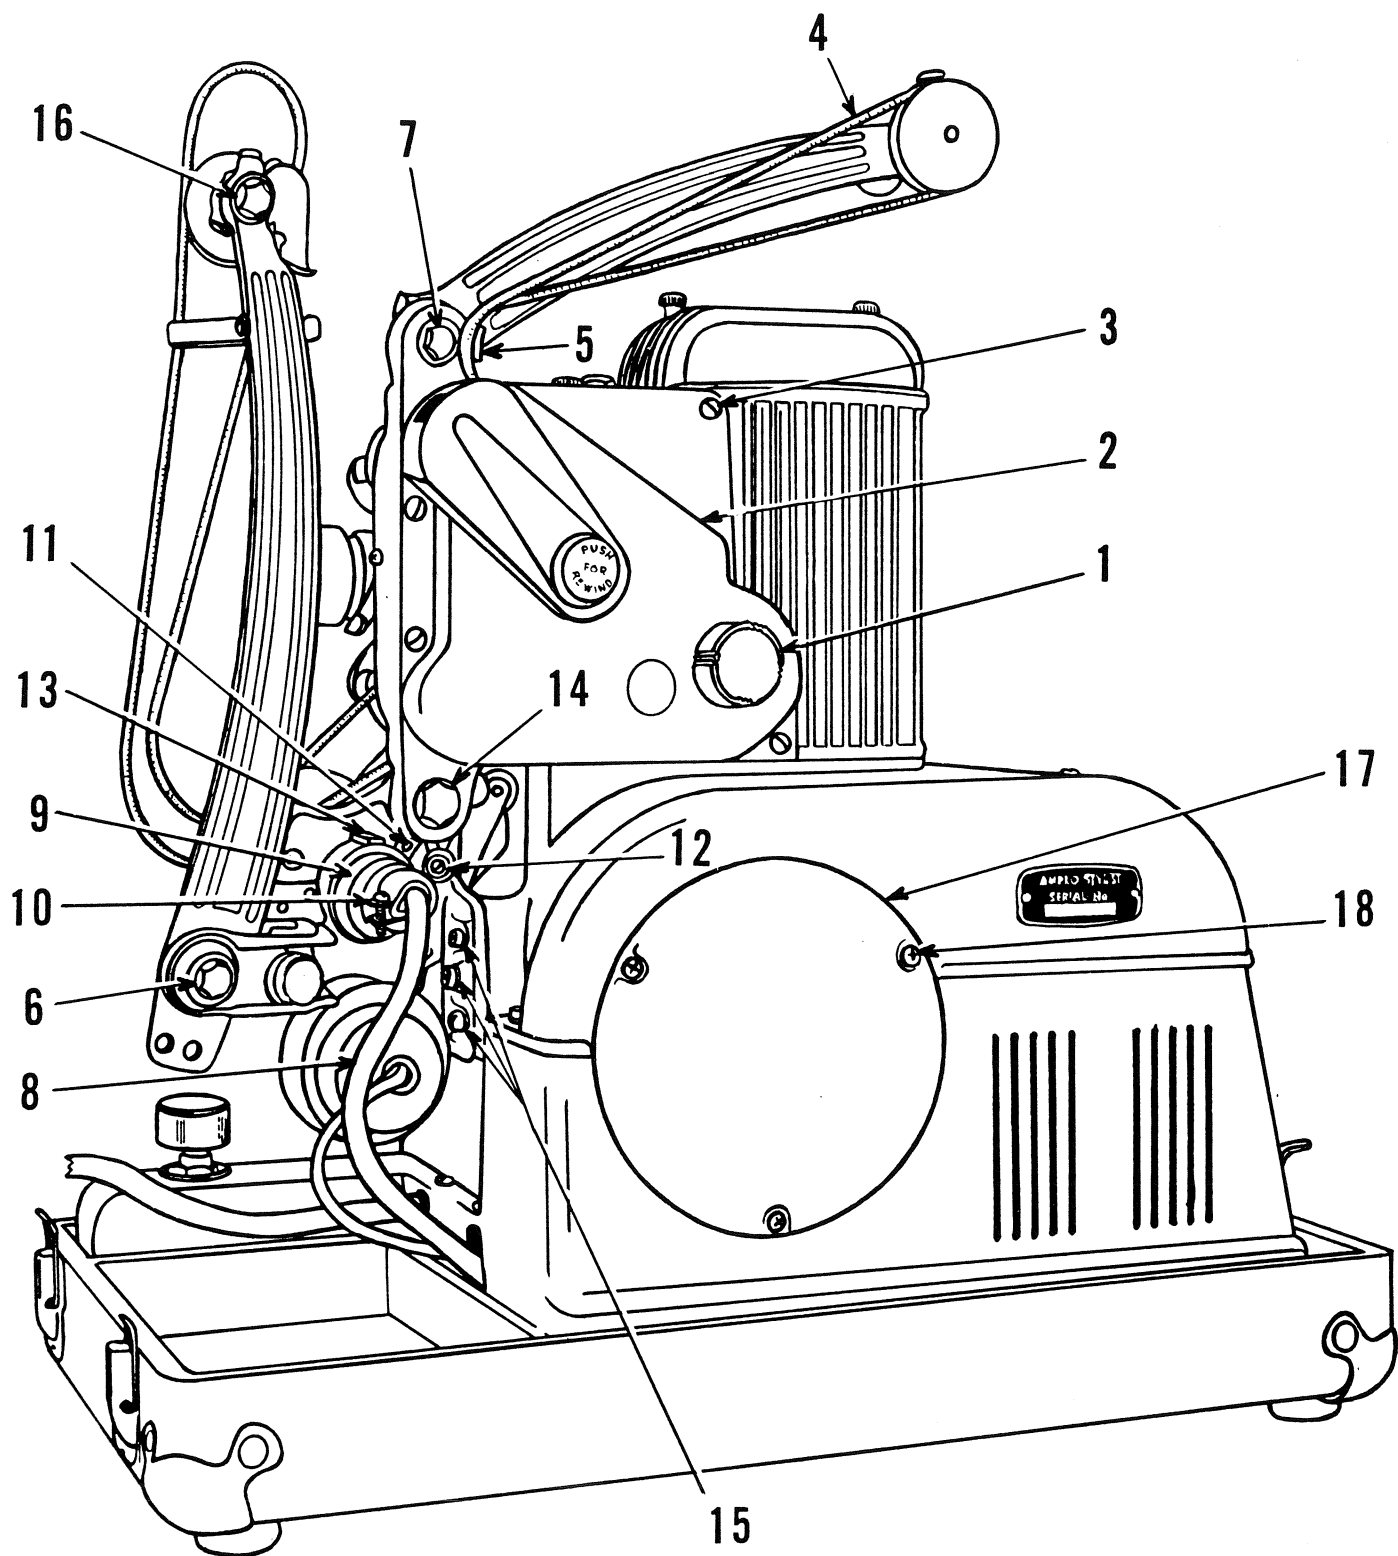

Figure 3 - LEFT HAND SIDE
- b. Gear Compartment (See Fig. 3) - Loosen the setscrew in the shutter control knob (1) and remove the knob. Take out the four screws (3) which hold the rear cover (2) in place and remove the cover. If the mechanism is very dirty it should be disassembled for cleaning (See Sec. III-A-6). Remove any surplus oil that may have accumulated in the bottom of the mechanism. Wipe the gears with a cloth saturated with Amproil, this can be accomplished easily with the mechanism operating at slow speed, but guard against getting fingers or loose ends of the cloth caught in the gear train.
- c. Fan and Fan Housing (See Fig. 3) - Remove the three screws (18) which hold the fan cover (17) in place and remove the cover. If compressed air is available start the projector motor and direct a stream of air into the fan and around the housing to blow out the accumulation of dust. If compressed air is not available remove the fan and wash it; brush the dirt out of the fan housing and then wipe it with a clean cloth.